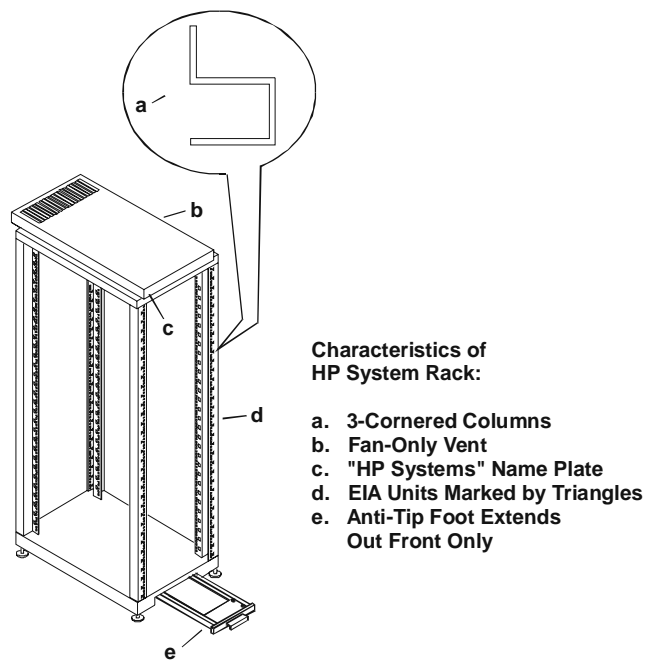

Figure 13-1. HP System Rack
This chapter provides the instructions for mounting the HP Netserver in an older 4-post HP Systems rack, as shown in Figure 13-1. If you have the newer 4-post HP System/E or System/U rack or a third-party non-threaded 4-post rack, see Chapter 7, "Rack Mounting the HP Netserver (4-Post)." If you are mounting the Netserver in a 2-post non-HP rack, see Chapter 8, "Rack Mounting the HP Netserver (2-Post)," or refer to the documentation in the appropriate rack accessory kit.
1. Ensure the leveler screws on the rack's corners make firm contact with the floor. Extend the anti-tip foot from the rack. See Figure 13-1.